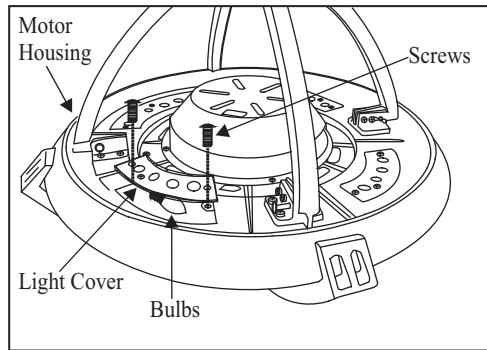

Figure 19
1. Remove the 2 screws from the light cover from the top decorative housing as shown in Fig. 19.